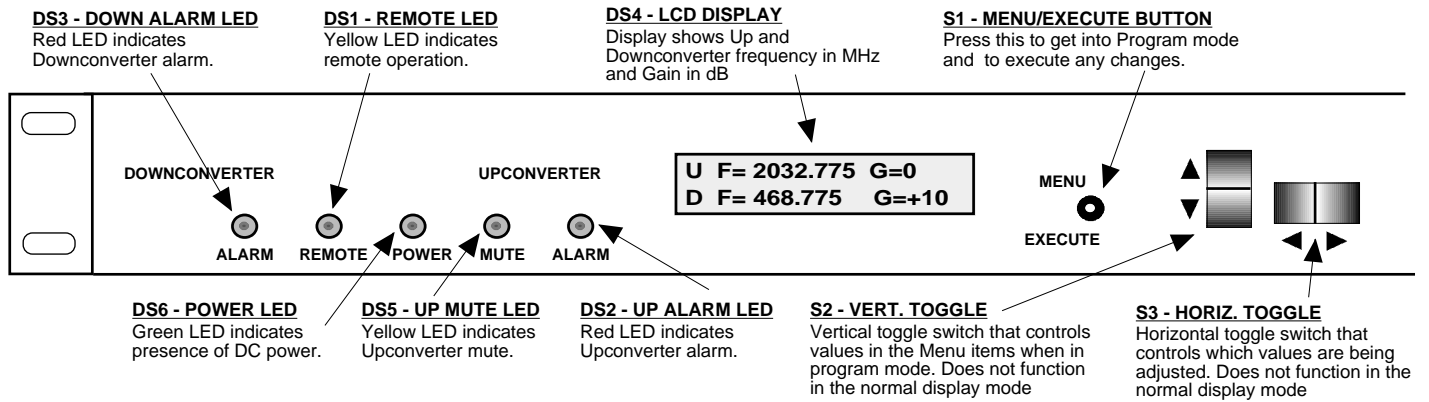

Figure 2.2 Model 2017-2004 Front Panel Controls and Indicators
- 4.) Be sure DS6 (green, DC Power) is on and DS2 & DS3 (red, Alarm) are off (Figure 2.2).
2.5.1 Functions - This section describes operation of the front panel controls. There are three operator switches, the LCD display and alarm indicator LEDs. All functions for the equipment are controlled by these components. The functions are (see Figure 2.2):
Alarm indications appear on the LEDs (see figure 2.2).